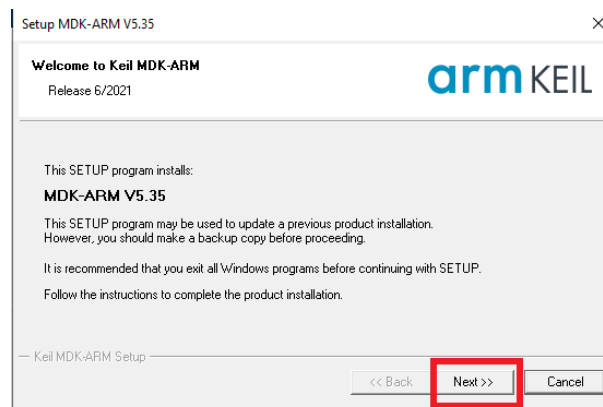

Figure 4
5. Execute the downloaded file named "MDK537.exe". A window pops up as shown in Figure 4. Installing the software is straight forward; choose the Next button in each step.